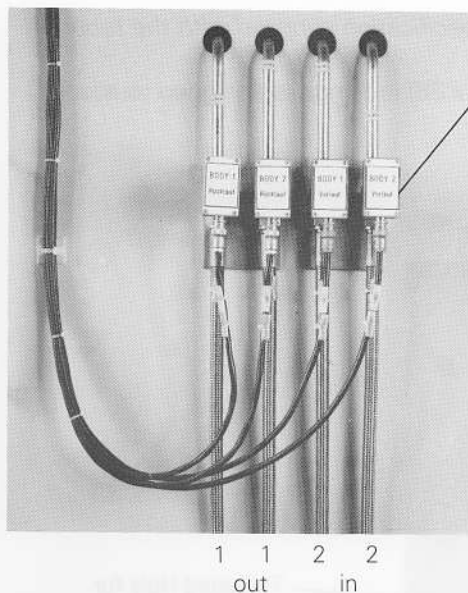

Fig. 52. Typical Customer-Connection of Body Water Inlet and Outlet Hoses and Temperature Sensors
- (h) Water connections (inlet and outlet) to body 1 and body 2 cooling circuit (Fig. 52).
- (j) Body water temperature sensors (Fig. 52), if required.